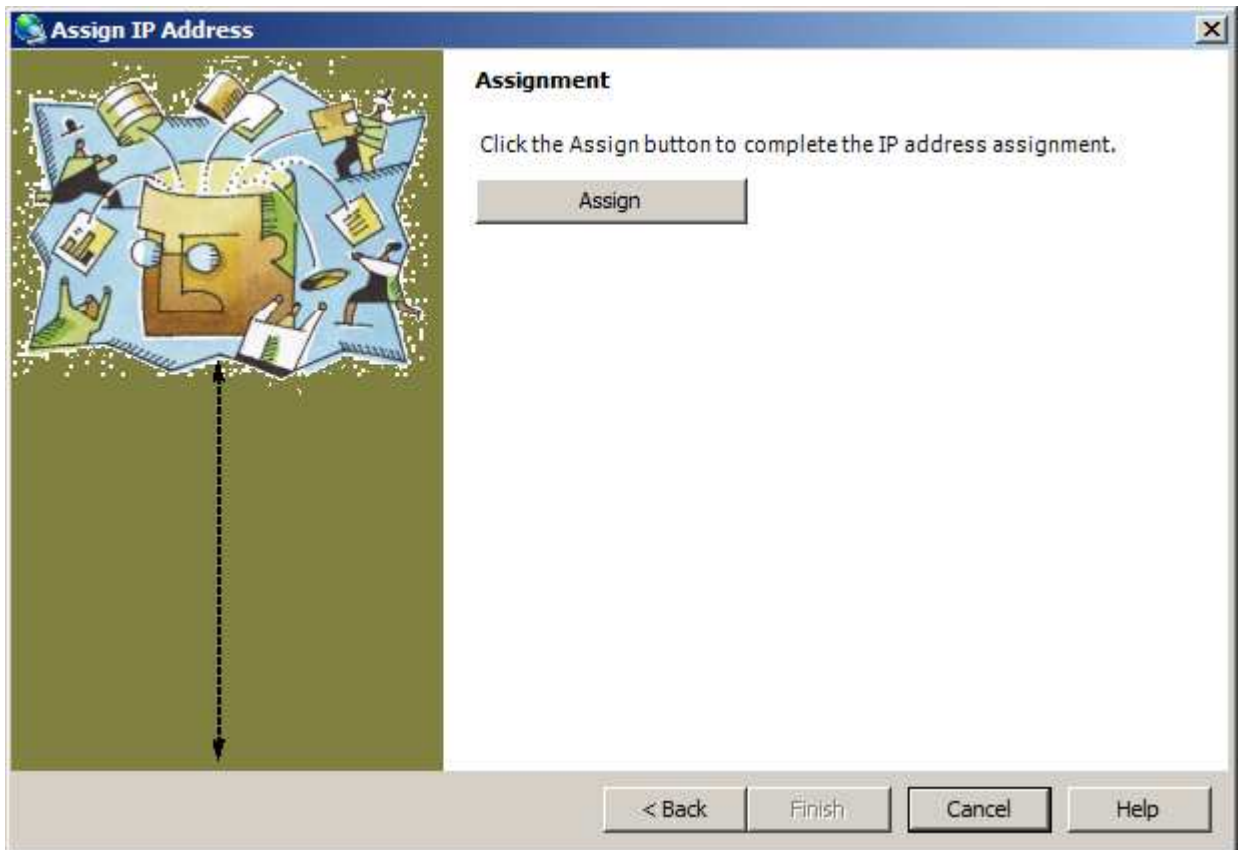

Figure 6 - The Assignment panel
- 6) Click **Next** again. The Assignment panel is displayed (Figure 6).